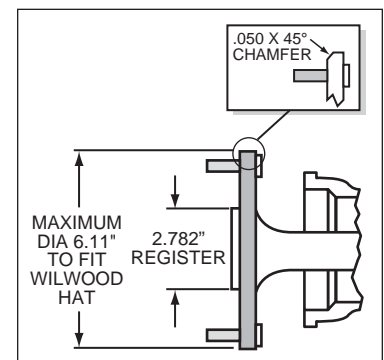

Figure 2. Axle Flange Maximum Dimension
- Maximum axle flange diameter must be no larger than 6.11" w/.050" x 45° chamfer (see Figure 2).